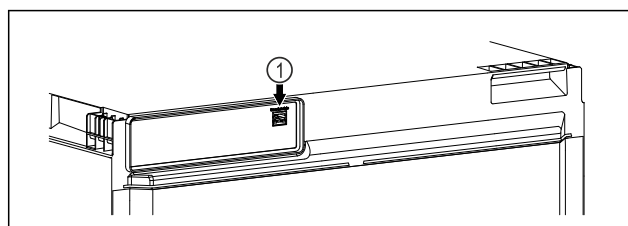

Fig. 27
- ☐ SmartModule Fig. 27 (1) has been inserted.